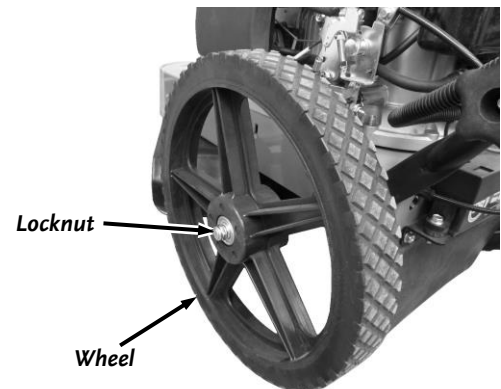

Figure 43
2. Loosen and remove the Locknut with the required Wrench (**Figure 43**).